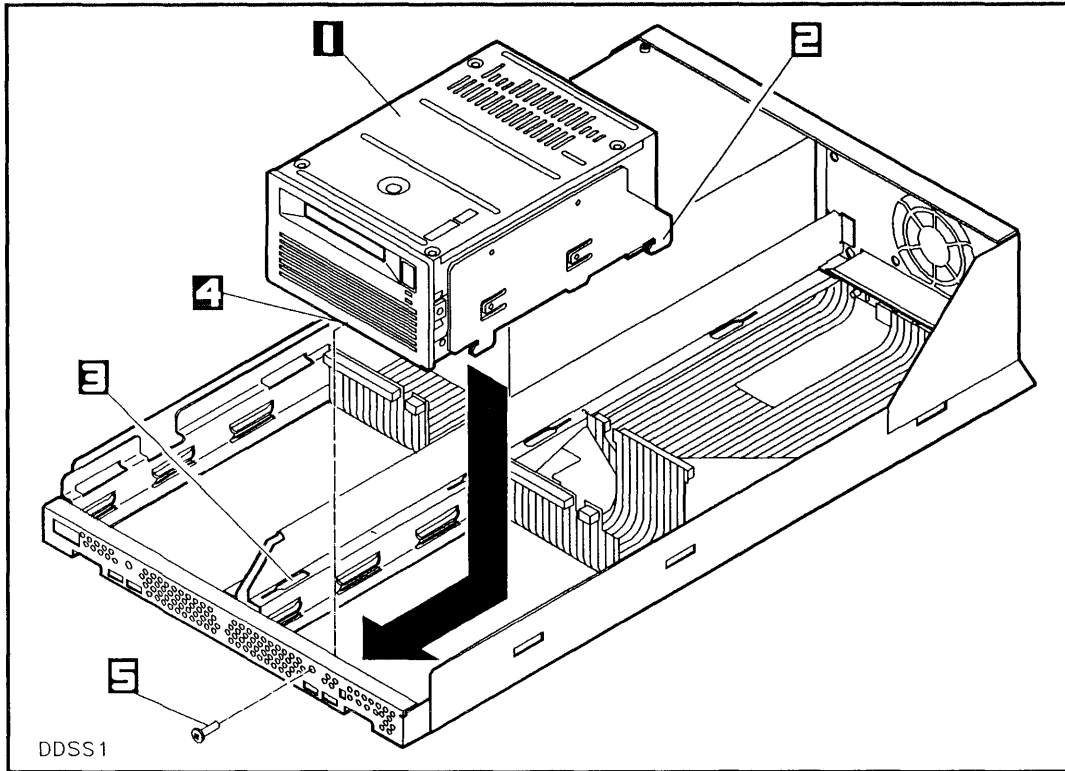
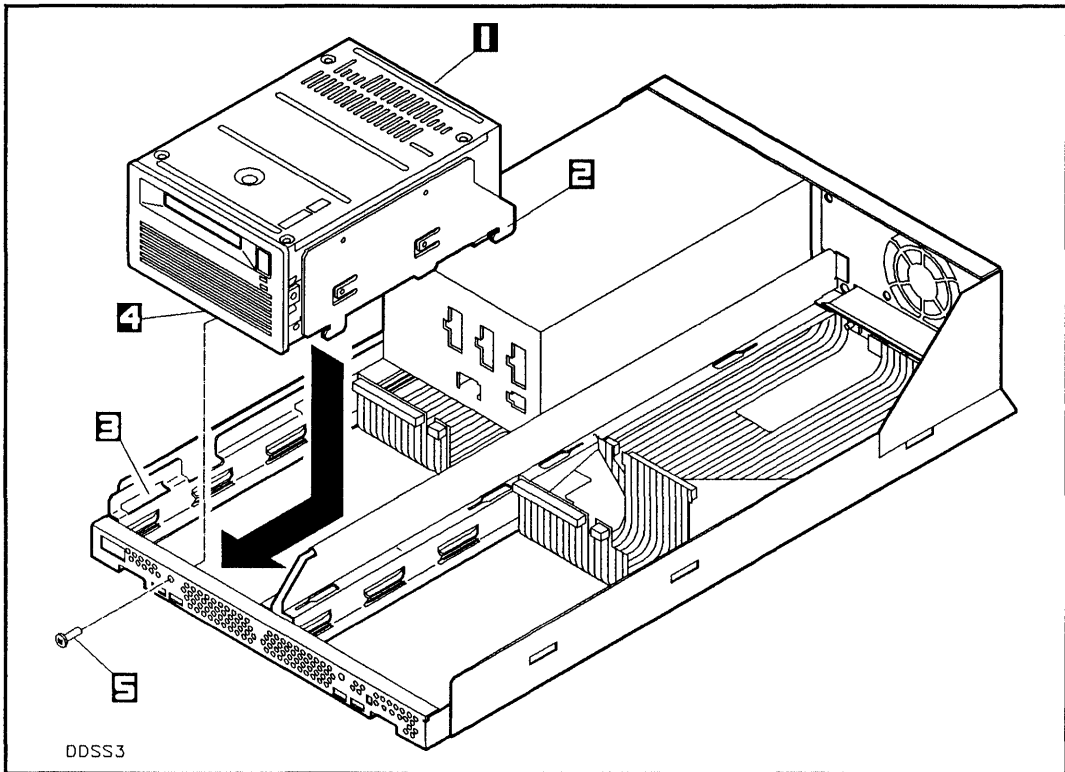

Figure 5-10. Installing the DAT Drive into Slot 1
Figure 5-11. Installing the DAT Drive into Slot 3
Install the DAT drive into the mass storage system as follows (see Figure 5-10 or Figure 5-11:
1. Remove the T25 screw from the front of the mass storage system chassis (see Figure 5-10).